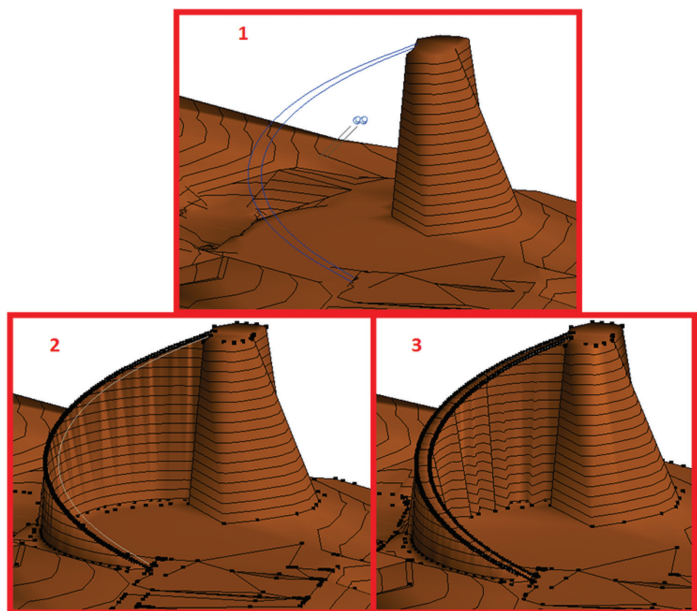

Figure 10: Selection steps for helix
9. Select the topography element, select edit surface, and select Create from Import. Select one of the imported dwgs and you should see the topo be modified to follow the helical edge. Repeat for the other edge as shown in steps 1, 2, and 3 in Figure 10.